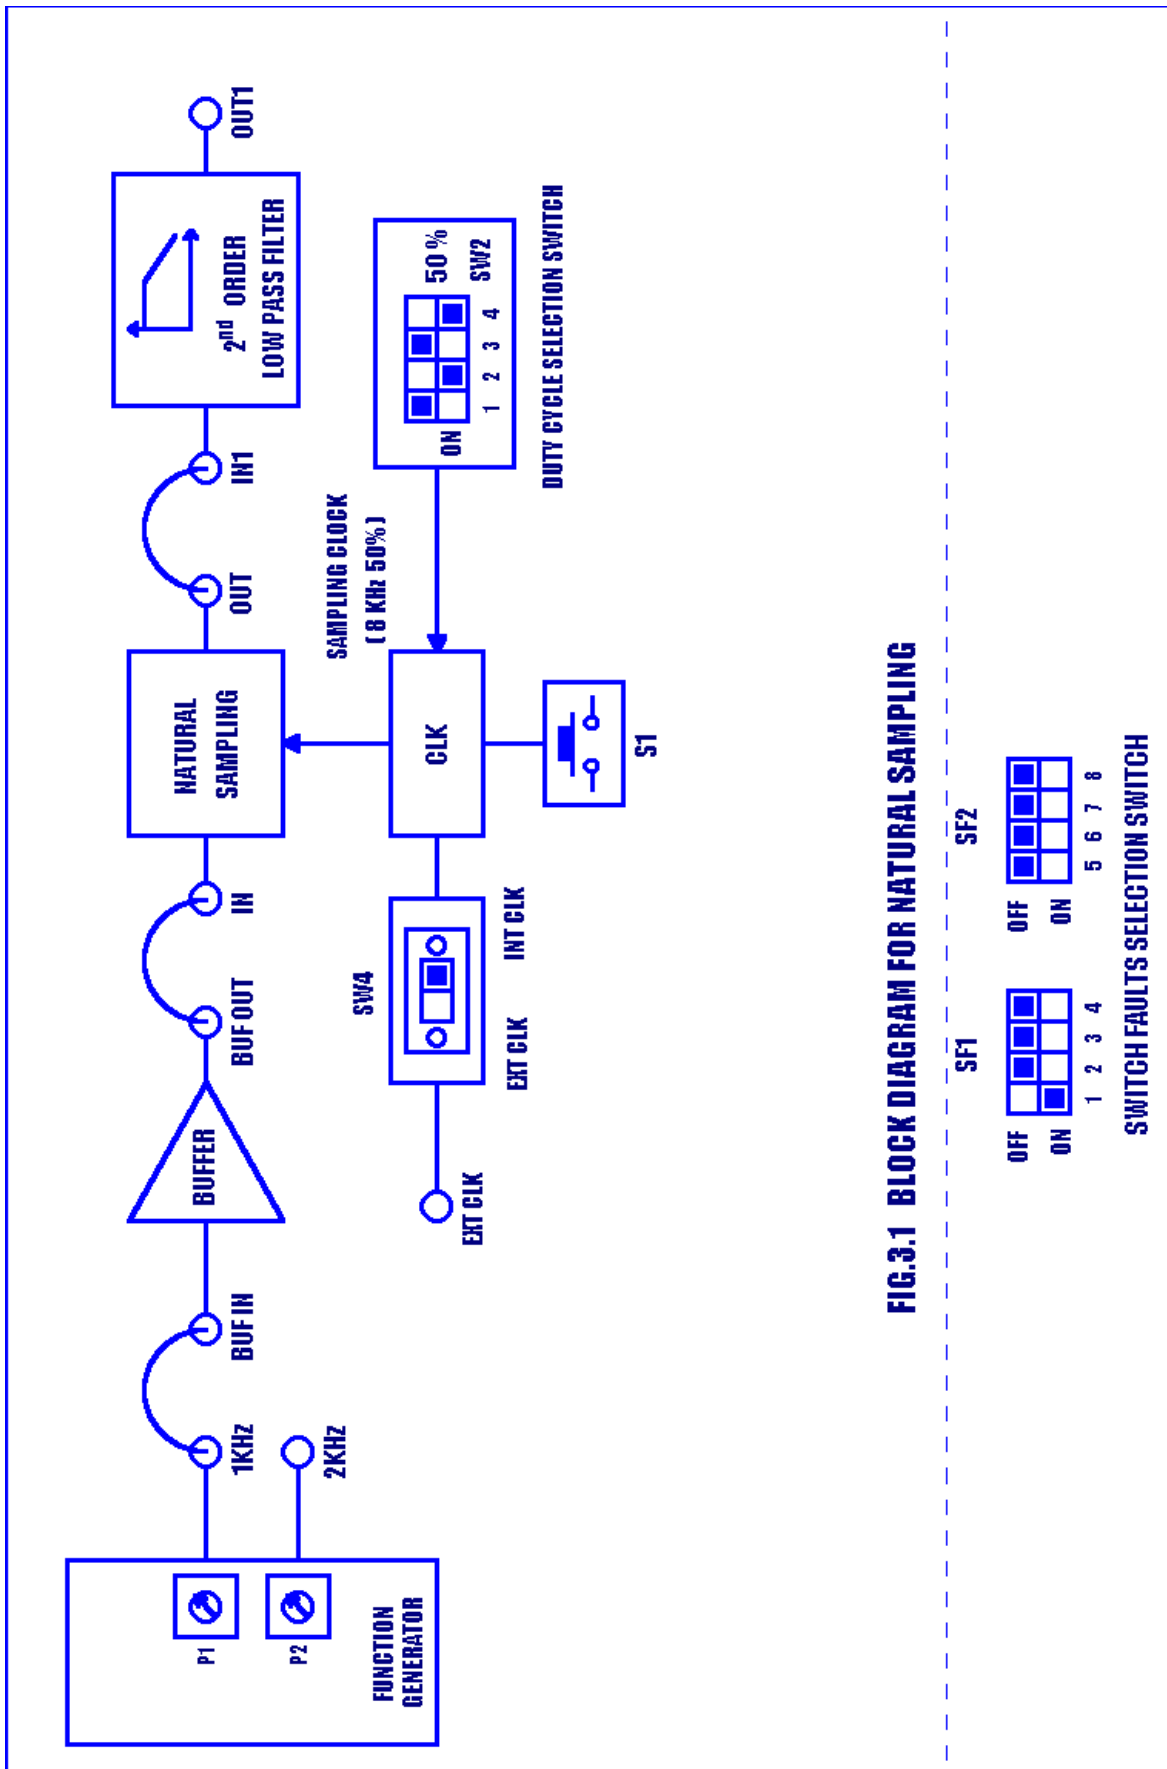

FIG.3.1 BLOCK DIAGRAM FOR NATURAL SAMPLING
1. Refer to the Block Diagram (Fig.3.1) & Carry out the following connections and switch settings.